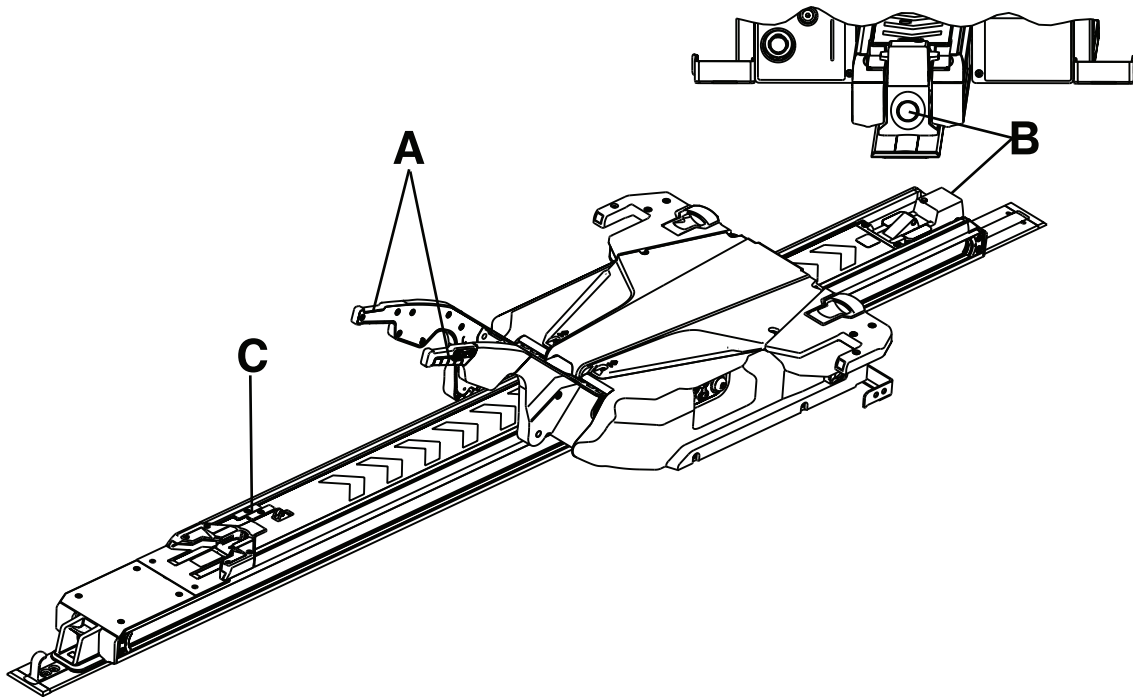

Figure 3: Trolley mid transfer position
1. Raise the lifting arms (A) (Figure 3 on page 38).
2. Press the trolley release button at the head end of the anchor (B) (Figure 3 on page 38).
- Slide the patient right transfer lock trigger (C) to extend (Figure 3 on page 38).